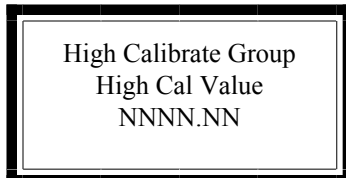

Figure 10a: Entering the High Calibration Value.
- 3) Toggle the “Next” key until you reach “High Cal Value” Menu, Figure 10a, and set the value to the desired High Cal Value. (See chapter 6 on modifying Menu Variables).